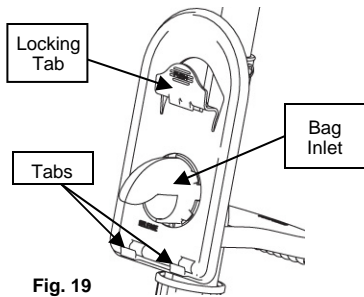

Fig. 19
1. Place the HEPA bag collar over the bag inlet. Position the HEPA bag collar into the tabs at the bottom of the bag holder. Then rotate over the bag inlet. (Fig. 19)